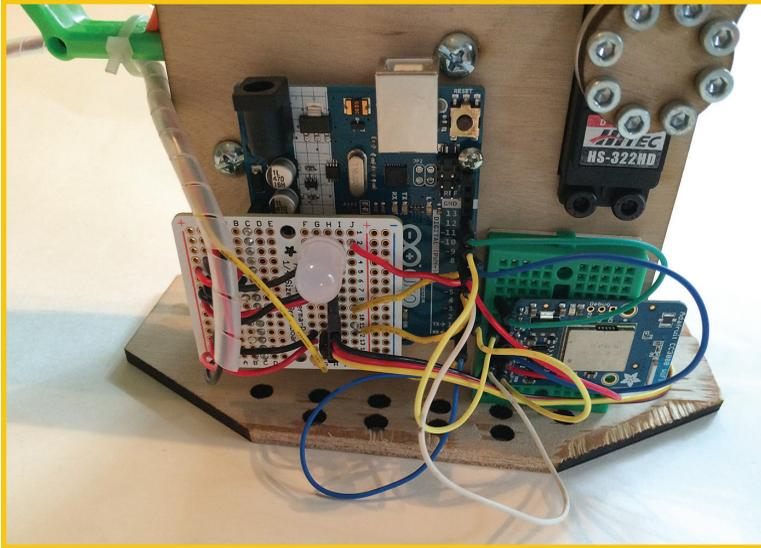

FIGURE 13.11 Move a couple of wires around to make room for the Wi-Fi card.
STEP 3 You'll need to adjust a couple of wires from where they were in the Dart Launcher. First, move the light-emitting diode (LED) wire from pin 13 to pin 8. Then, move the PIR's data wire from pin 3 to pin 2. This will make room for the CC3000's pins. You can see how it should look in Figure 13.11.